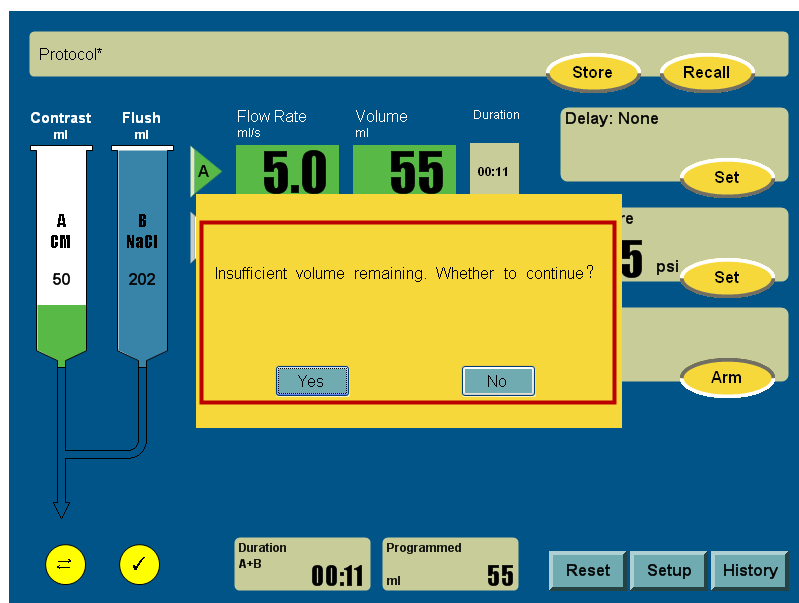

Figure 5
**Reminder messages (Figure 5):** Reminds the operator to check and confirm the operation.